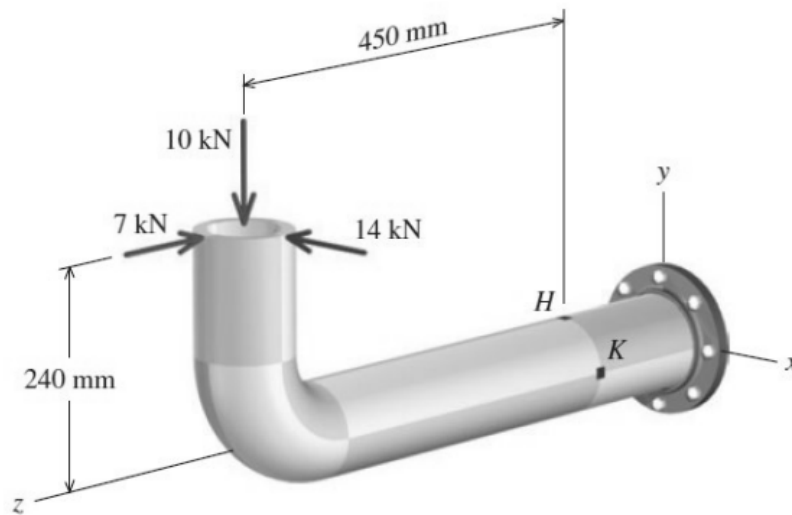

Figure 3
3. Figure 3 shows a pipe with external diameter of 80 mm and internal diameter of 60 mm which is subjected to combined loading.